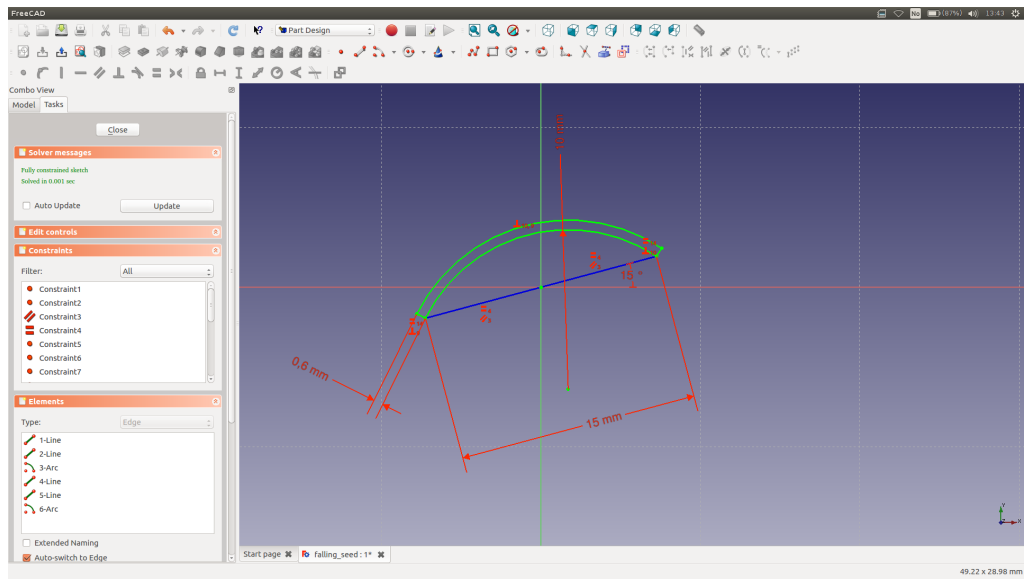

Figure 3
- The two initial segments were only construction segments and should not be used to create a volume, so use the **Toggle the toolbar or selected geometry to/from construction mode** to take them out of the sketch that will be used for the 3D extension. Your sketch should now look like Fig. 3. Close the sketch editor, and rename the sketch as **wing\_profile\_low**.